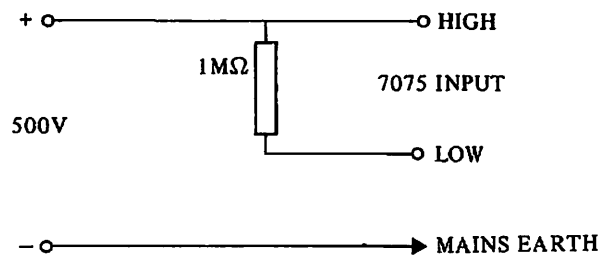

Fig 8.3
1. Connect the instrument as shown in Fig . 8.3